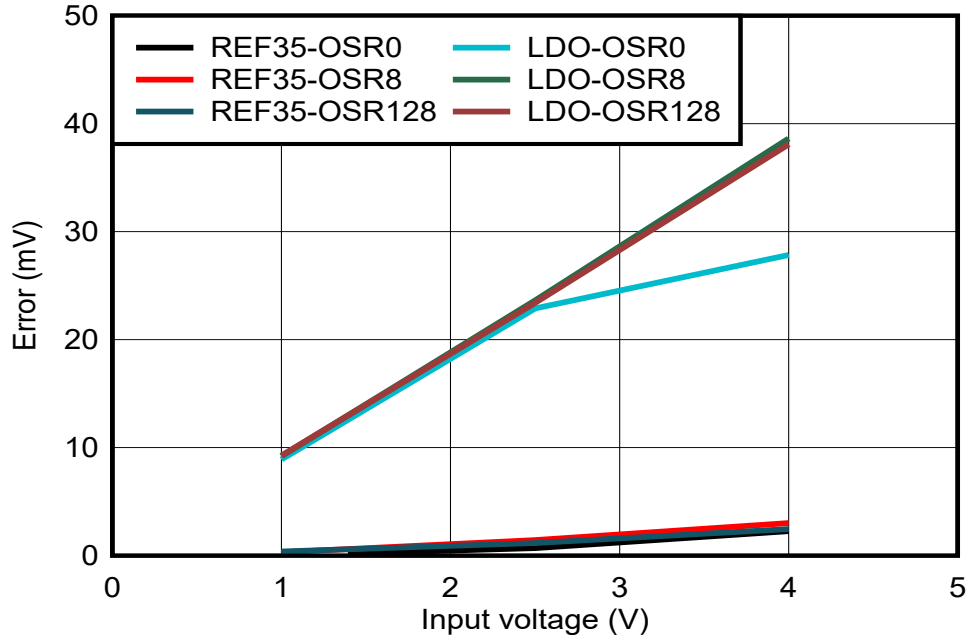

Figure 9-3. Error vs Input Voltage
**Table 9-3** and **Figure 9-3** show the captured measurement results for various DC inputs. The ADC output is captured and analyzed for output accuracy error and code spread with REF35500 as power supply versus LDO as power supply.